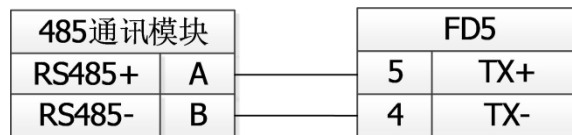

Figure 10-2 RS485 signal wiring
The RS485 port of the FD5 series servo drive supports the MODBUS communication function, which can be used to modify the internal parameters of the servo and monitor the servo status. The communication line of the master station is connected to X4A (IN), and X14B (OUT) is connected to the next slave device. Wiring is shown in Figure 10-2 and Figure 10-3.